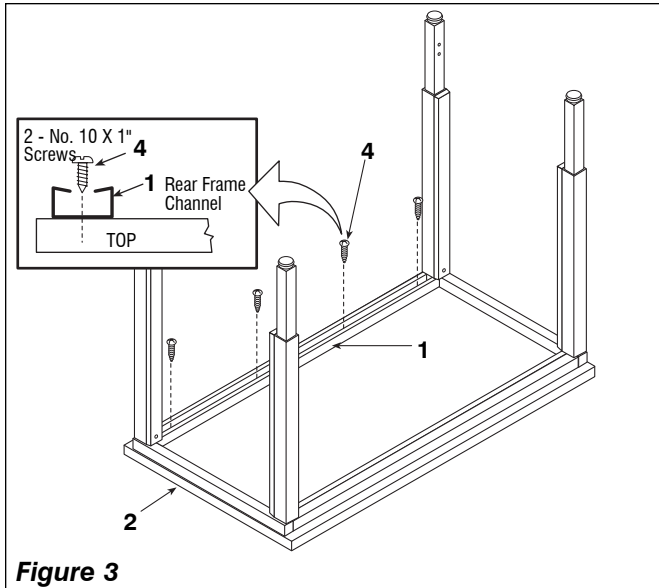

Figure 3
NOTE: Do NOT drill pilot holes deeper than 3/4" (Refer to Fig. 3 and 4)
2. Attach the rear of the table top by drilling 1/8" diameter pilot holes 3/4" deep into the table top (2). Use the holes in the rear table frame as guides. (Fig. 3)
3. Insert a No.10 x 1" pan head screw (4) through the predrilled holes in each end of the rear frame assembly (1) and into the table top pilot holes. (Fig. 3)